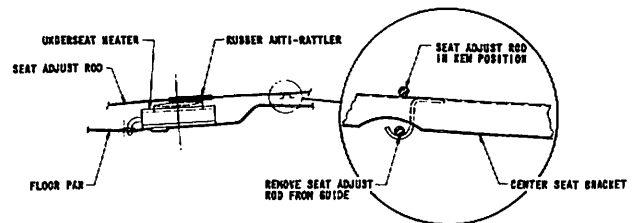

Figure 8
- 1A For "Packard" models—remove cushion and unhook seat adjust rod from guide underneath center seat bracket (guide shown in figure 8). Remove seat from adjusting track by removing four  $\frac{5}{16}$ -24 nuts. Unhook right side of seat adjust
11. Replace seat. (On Packard models only—assemble rubber anti-rattler on seat adjust rod and place rod on top of center seat bracket as shown in figure 8. Assemble seat adjust rod.)